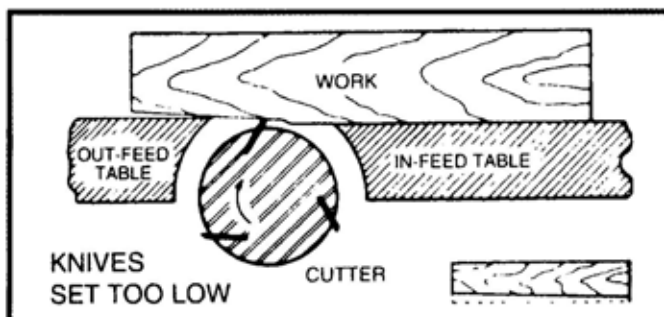

Fig. 44
8. If the knives are set too low, the result will be as shown in Fig. 44, and the surface will be curved.